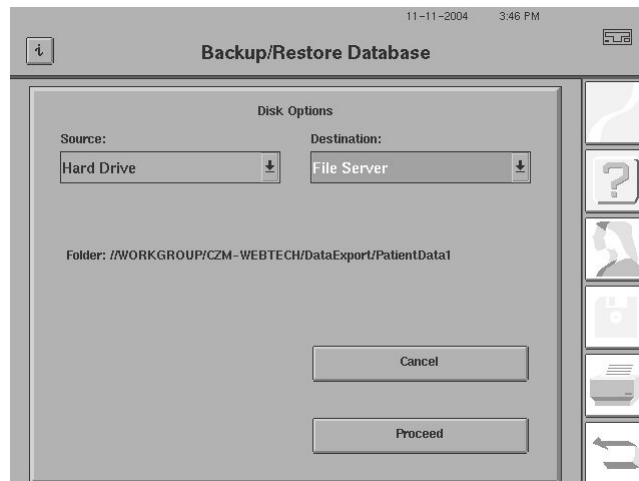

Figure 14.10 Disk Options Screen – Backing Up a Database
- 3 When the disk options screen appears, select the down-arrow to open the SOURCE drop-down box. Select HARD DRIVE (Figure 14.10).